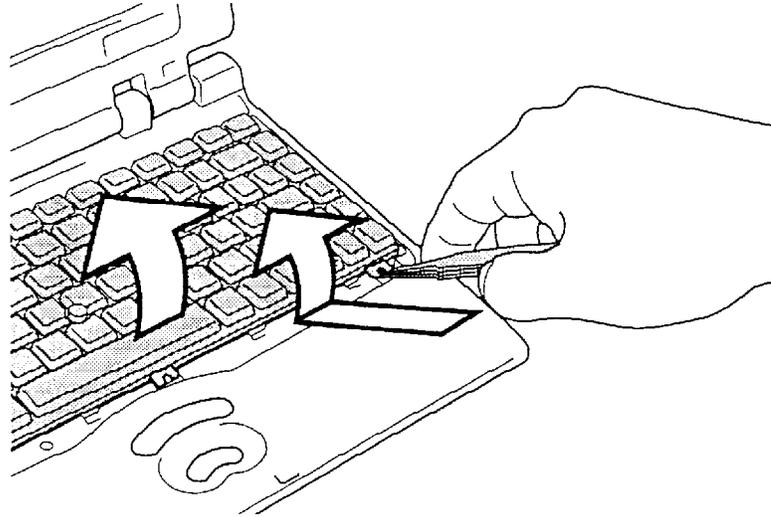

Figure 4-11 Lifting the keyboard
6. Insert the thin metal tool between the keyboard and top cover to lift up the keyboard (figure 4-11). Lift up slightly so notches at the back of the keyboard clear corresponding holes on the top cover. Do not remove the keyboard cable.